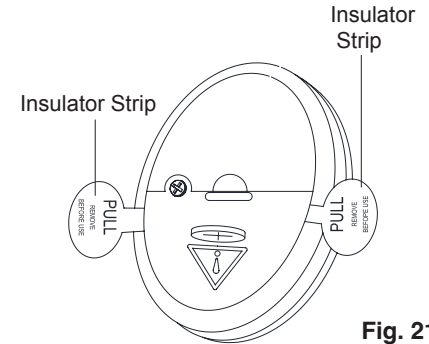

Fig. 21
**Step 1.** To activate the transmitter, carefully pull the insulator strips out of the transmitter to activate the two pre-installed CR2032 3V button/coin cell batteries. Discard insulator strips. (Fig. 21)